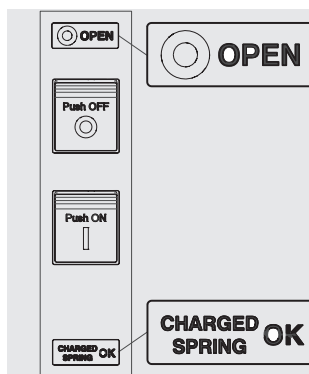

Figure 81
2. Circuit-breaker open with springs charged (see Figure 81).